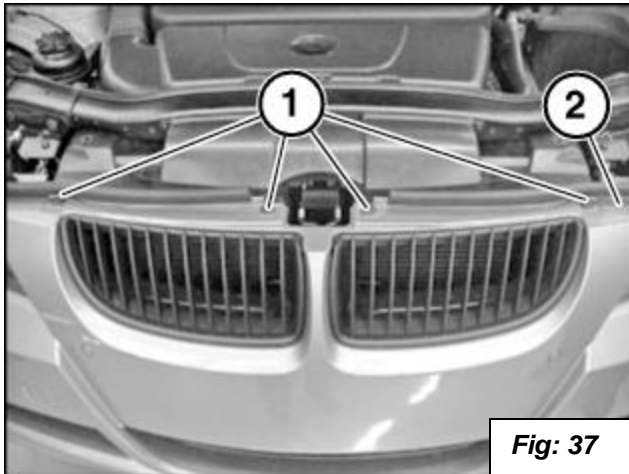
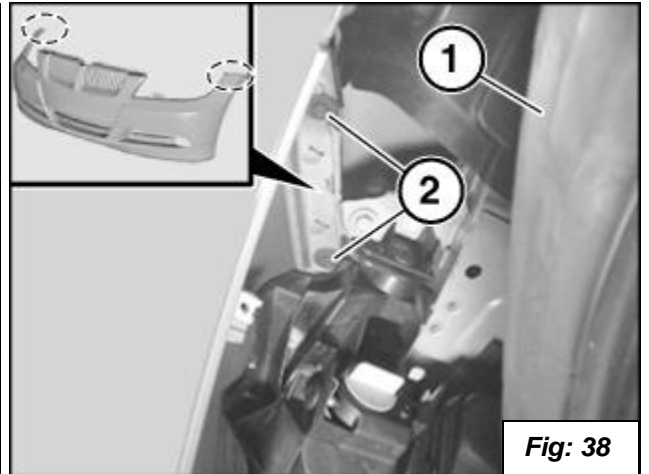

Fig: 37
Fig: 38
39. Fasten the top screws (1) as shown in figure 37 and the side screws (2) as shown in figure 38.